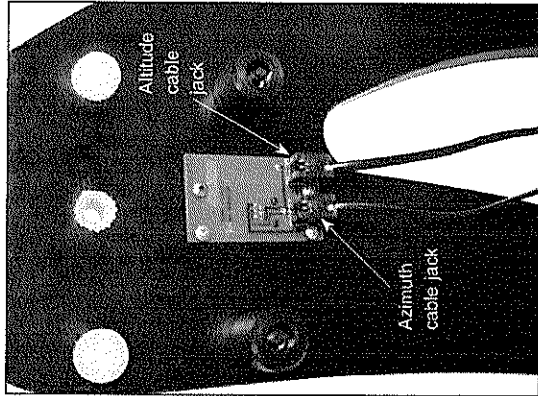

Figure 5. The azimuth cable plugs into the jack on the left of the encoder connector board. The altitude cable plugs into the jack on the right.
panel. The cable should plug into the jack on the left side of the encoder connector board (see Figure 5).
- 4) Connect one end of the altitude encoder cable to the modular jack on the altitude encoder assembly. Connect the other end of the cable to the jack on the right side of the encoder connector board (see Figure 5).